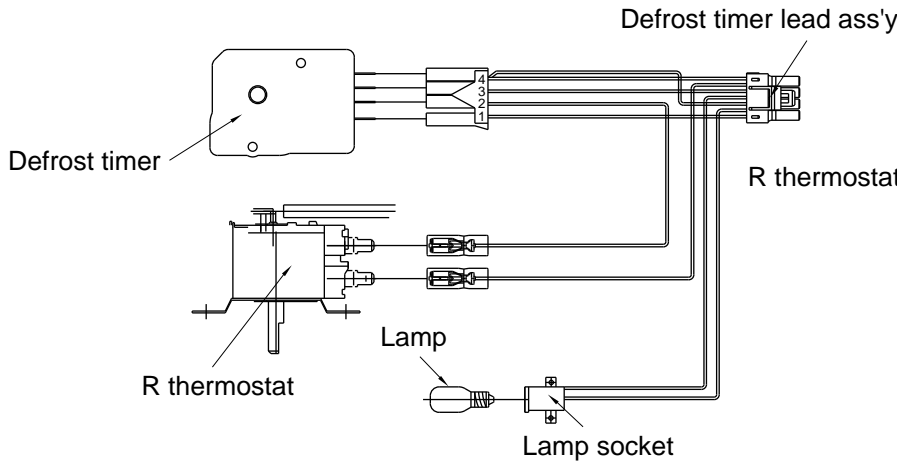

Fig. A-18
2. Screw Lamp to Lamp socket. (Fig. A-18)